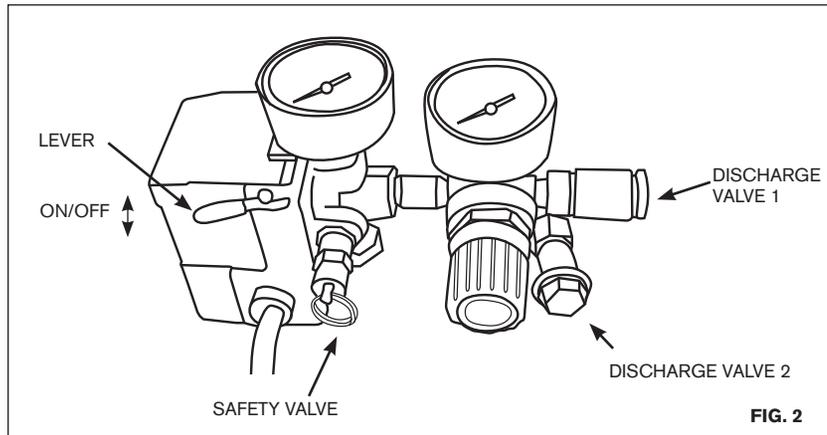

FIG. 2
6. Open the outlet valve, set the knob of pressure switch in position on (Fig.2), and let the compressor run 10 minutes with no load to ensure lubricating the moving parts before regular service.